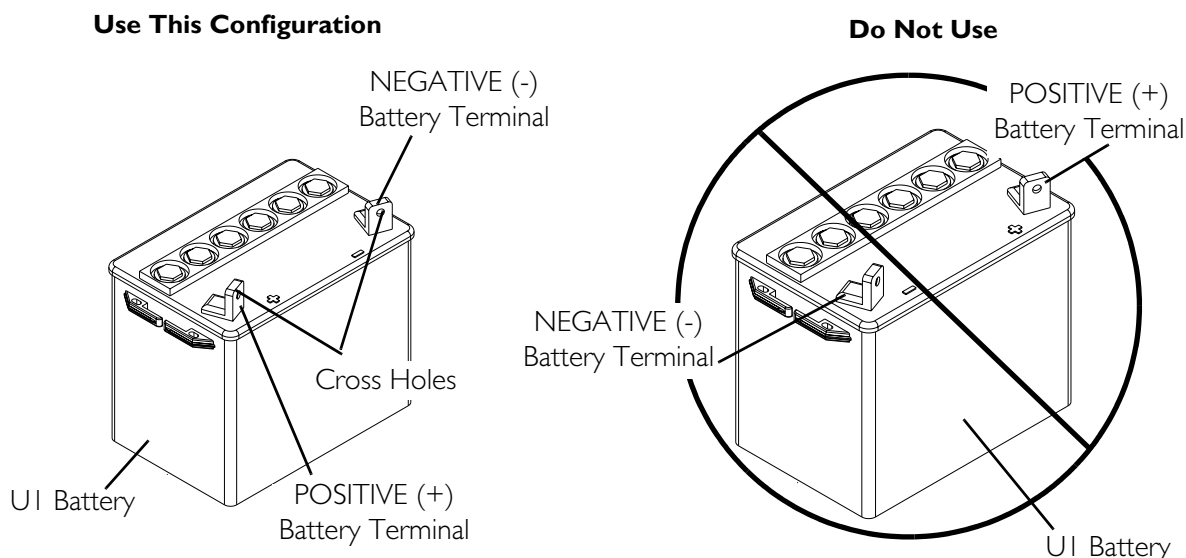

FIGURE 17.1 Using the Proper Batteries
NOTE: Refer to FIGURE 17.1.
2. Visually draw a horizontal and vertical centerline through the middle of battery (FIGURE 17.1).
4. Visually inspect the battery to ensure the correct position of the **POSITIVE** and **NEGATIVE** terminals (FIGURE 17.1):